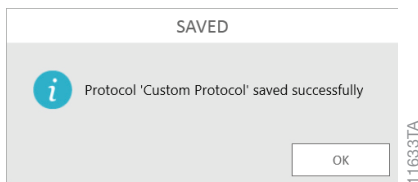

Figure 20. GloMax® Navigator New Protocol Successfully Saved user message.
7. Save the protocol by selecting either the **Save** or **Save As** button on the bottom right corner of the screen. If requested, enter any protocol name and description information and press the **OK** button. A user message will appear indicating that the protocol was saved successfully (Figure 20).